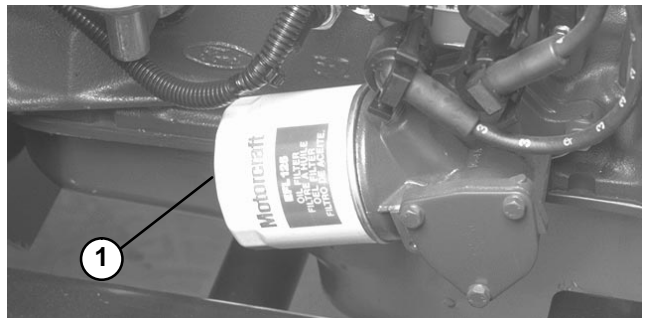

Figure 8
2. Remove oil filter (Fig. 8). Apply a light coat of clean oil to the new filter seal before screwing it on. **DO NOT OVER-TIGHTEN.**